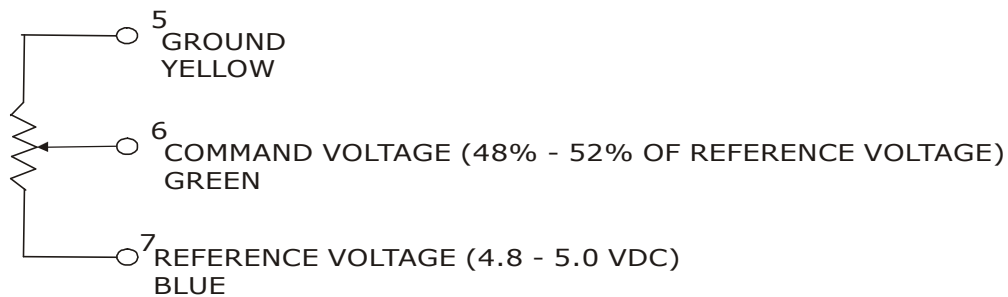

Figure 6: Control Head at Neutral (Left Hand)
7. The yellow and blue wires are reversed at the control head when configured for left hand. See Figure 6: